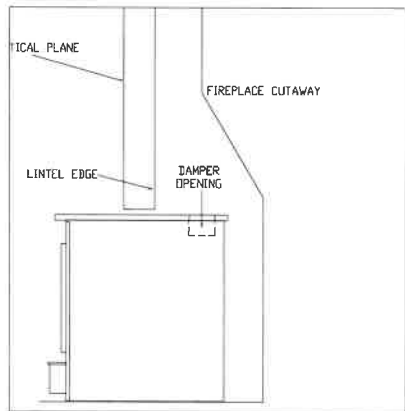

FIGURE 5
When positioning heater, the following conditions **MUST** be met! (See Figure 5).
1. The front of damper opening must be positioned **BEHIND** back edge of the lintel to ensure proper draft. (See Figure 5).